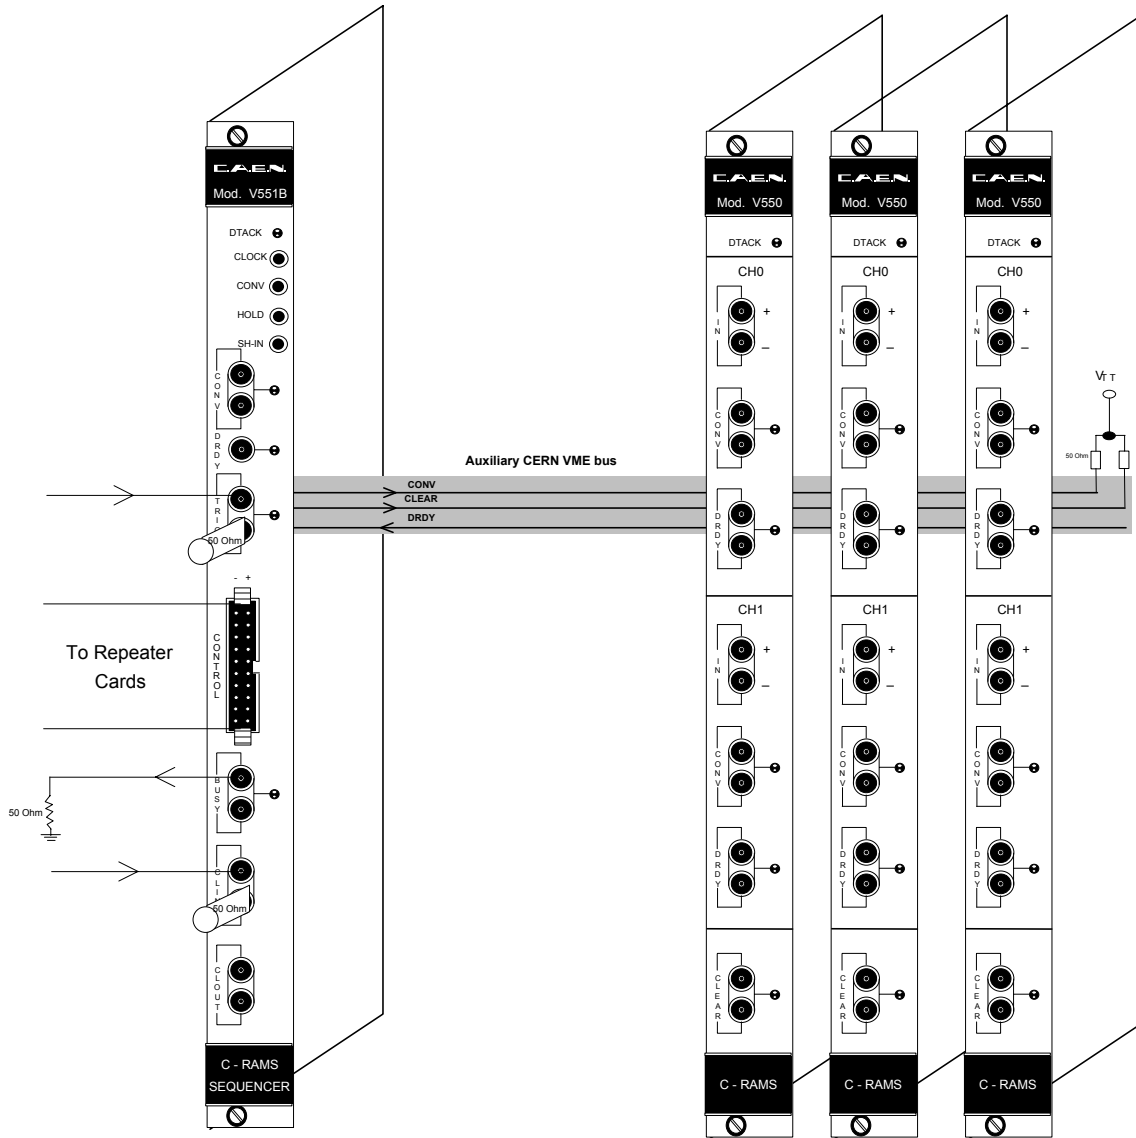

Fig. 4.1: System Layout with connections via Auxiliary VME bus
N.B.: With the layout shown in Fig. 4.1, it is convenient to set the -5 V power supply selection jumper to AUX. This allows to reduce the power consumption on the -12 V power supply.